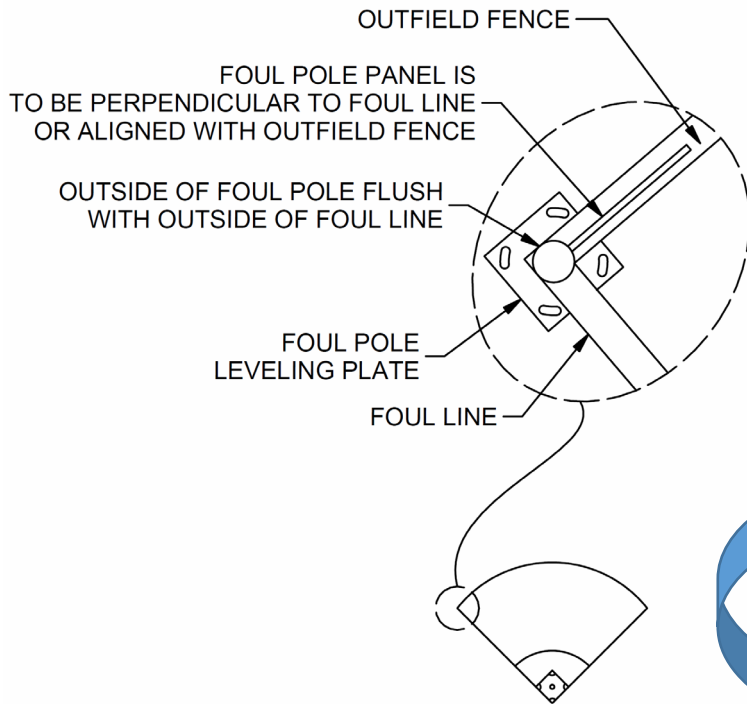

FIGURE: 1
- 1) Determine the proper location of foul poles as shown in figure 1 & 2 on the playing field that is clear of debris or obstruction. Dig the footing holes to the dimensions as shown on the illustration on the next page. **These are suggested dimensions for average soil conditions, consult local building codes. Dimensions may need to be adjusted in areas subject to high wind loads.**
3. Rotate the upright as needed to align the panel mounting holes per the figure 1.
2. Rotate the pole to position the panels perpendicular to the foul line, as shown in figure 1.